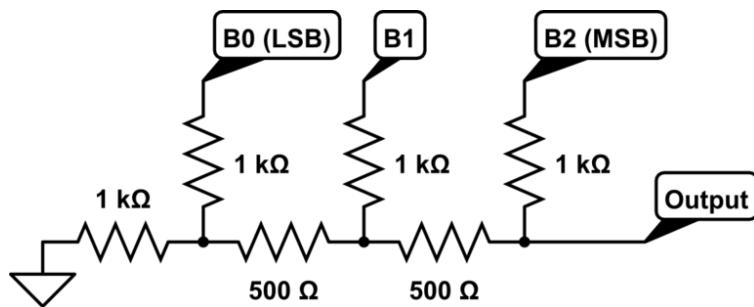

Figure 5
- Using only 1%  $1\text{k}\Omega$  resistors construct the circuit shown in figure 5 (use two  $1\text{k}\Omega$  resistors in parallel to get  $500\Omega$ ).